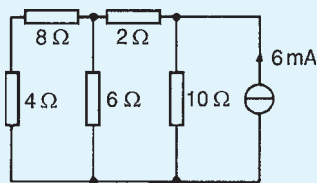

Figure 13.64
3. Determine the current flowing in the 6Ω resistance of the network shown in Fig. 13.64 by using Norton's theorem. [2.5 mA]